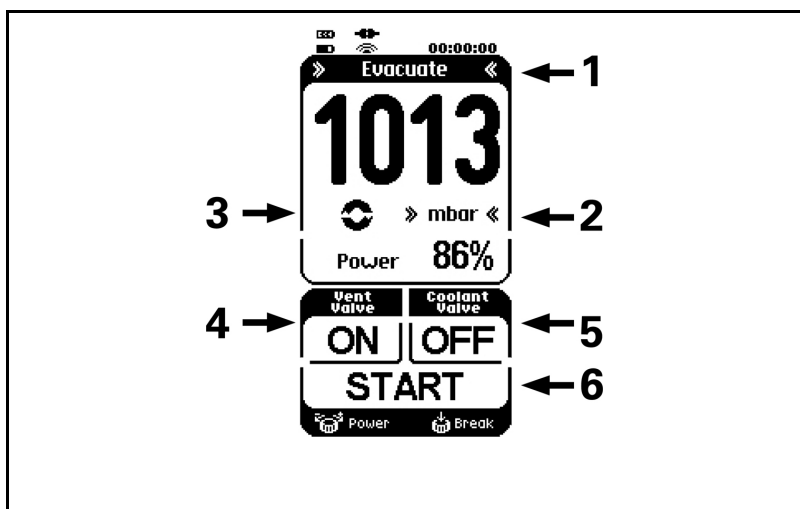

Fig. 9: Menus and buttons on the touchscreen
- Menu for selecting operating mode and units for pressure display (Fig. 9, page 24).
- Operating buttons (Fig. 9, page 24) with the following functions: